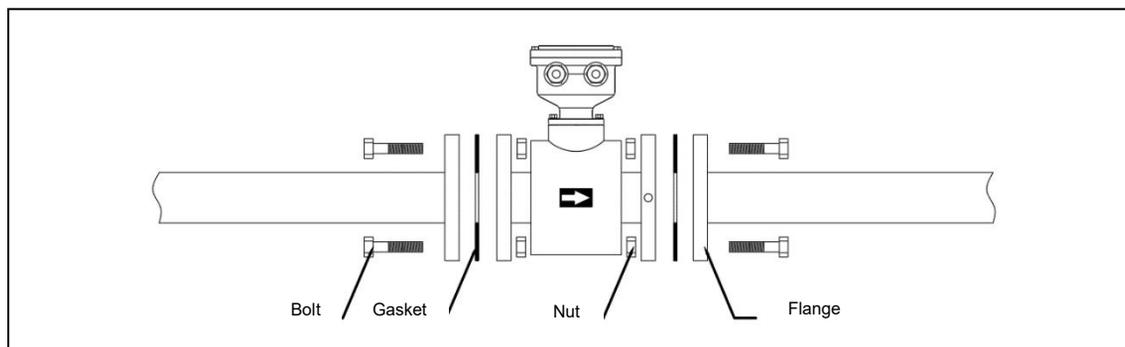

Figure 4.3.2 Installation of remote electromagnetic flowmeter
- 2) Figure 4.3.2 shows that the bolt is inserted from one side of the pipe flange and fastened and tightened with a nut on the other side.